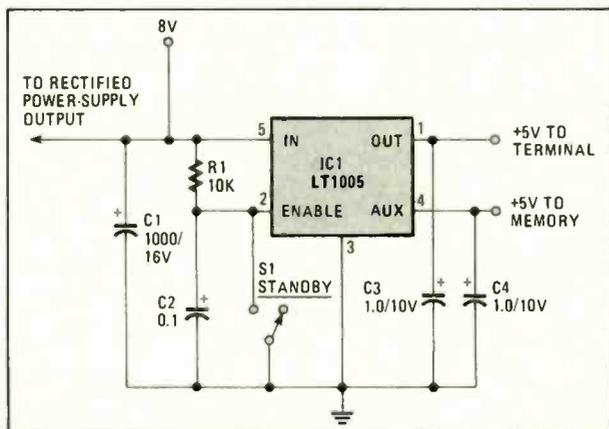

FIG. 5. A DUAL-OUTPUT REGULATOR can provide standby power for the memory while the main systems are shut down.
**FIG. 5—READ SENSITIVITY is a good indicator of the ability of a drive to read disks recorded on other drives. The display shown indicates that drive 1 passes, but barely.**
As shown in Fig. 5, sensitivity is indicated by a special bar graph that indicates how many times out of five tries the offset is read. The results are expressed in percent. (As the drive mechanism ages, the upper and lower limits of the display are reduced.)
Sometimes though, you don't need full-time memory protection. For example, there may be times when you want to temporarily shut down the console without having to dump the memory. Removing the power source to the regulator will, of course, shut everything down and reset the memory. For such applications, a special voltage regulator has been developed. The LT1005 from Linear Technology (1630 McCarthy B'ld., Milpitas, CA 95035) is a dual-output regulator that contains two regulated 5-volt outputs instead of the usual one. (See Fig. 5.) The main power line is controlled by an enable pin on the regulator. A logic